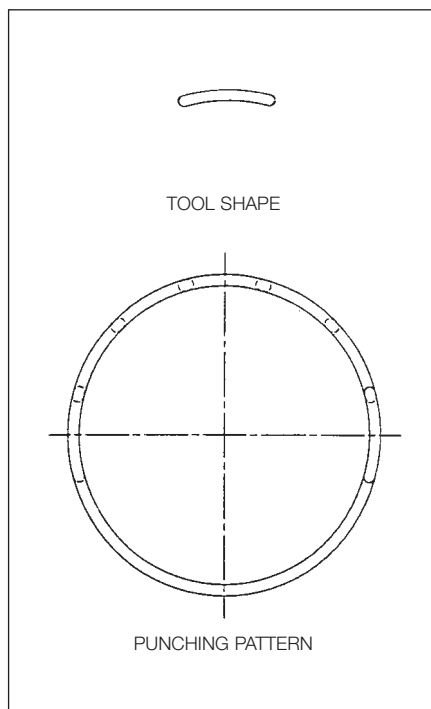

Figure 2
(Fig. 2)
**Figure 2:** This type of tool is used by slitting around the diameter required and removing the material at the centre. The advantages with this design are, that fewer hits are required, you may punch round blanks, using the inside radius, or round holes, using the outside (or both!!)